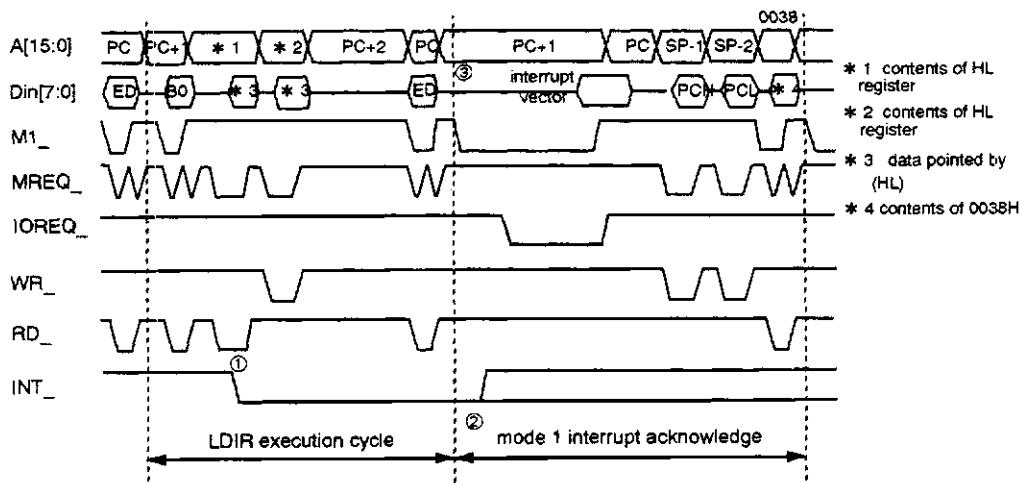

Fig.13 Interrupt acknowledge cycle (Mode 1 timing)
For example, under normal condition, the prefetched instruction, at address 1000H, data 77H at ③ in Figure 8 on execution of the instruction, JP 1000H is held and execute correctly. However, on interrupt the prefetched instruction will be discarded and refetch on return from an interrupt service routine. On interrupt recognition, PC is decremented by one before saved onto stack. On RETI or RETN instruction the PC will be loaded with the address of the discarded instruction. Figure 13 has the timing diagram for the case of receiving interrupt in mode 1 when executing LDIR instruction. In the figure, the data "EDH" prefetched at ⑥, is discarded and then go to interrupt service. On return, the CPU resume from the prefetch of this "EDH". For the bus request cycle, the data "EDH" prefetched at ⑥ prior to the bus request will be kept, and on bus release the CPU starts to prefetch from the next address to the "EDH".
The "IM 1 instruction" sets the CPU in this mode. In this mode, the CPU saves the contents the PC (Program Counter) onto the stack, ignores the data read during the interrupt acknowledge cycle, and executes "RST 38H" instruction internally. Figure 13 has the timing for Mode 1 interrupt.
The interrupt is accepted at the end of instruction. In case of block move instruction, the interrupt accepted at the end of repeat movement. The Figure 13 show the interrupt acknowledge timing. In this figure, an interrupt is accepted during block move instruction. ④ shows that when an interrupt request occurs, the interrupt will not be accepted until the prefetch cycle of the last instruction, ⑤. In this case, the data "EDH" fetched at ④ will not be kept by the CPU, and it will be refetched on the return from an interrupt.